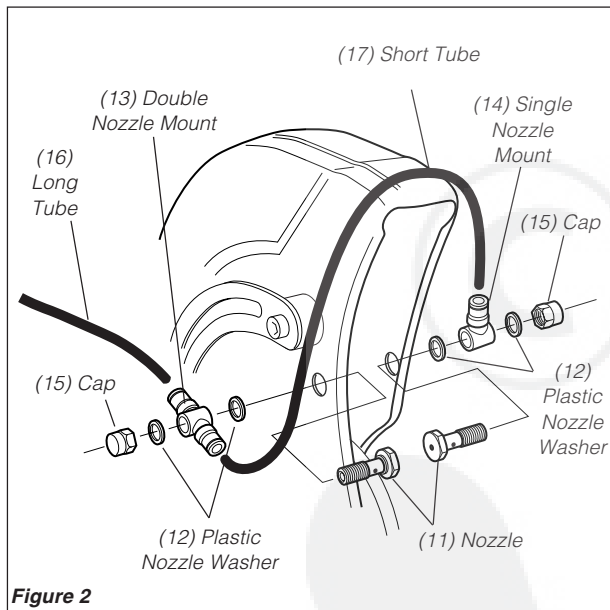

Figure 2
3. Position the nozzles (11) in the mounting holes of the cut-off wheel guard, install one washer (12), the nozzle mounts (13 and 14) and then another washer (12) over the threads as shown in Figure 2 with the double nozzle (13) on the right, and single nozzle (14) on the left.
4. Thread on the brass caps (15) finger-tight.
5. Connect the long tube (16) from the double nozzle mount to the handle-mounted valve.
6. When the hoses are aligned and free of kinks, securely tighten the brass caps (15).